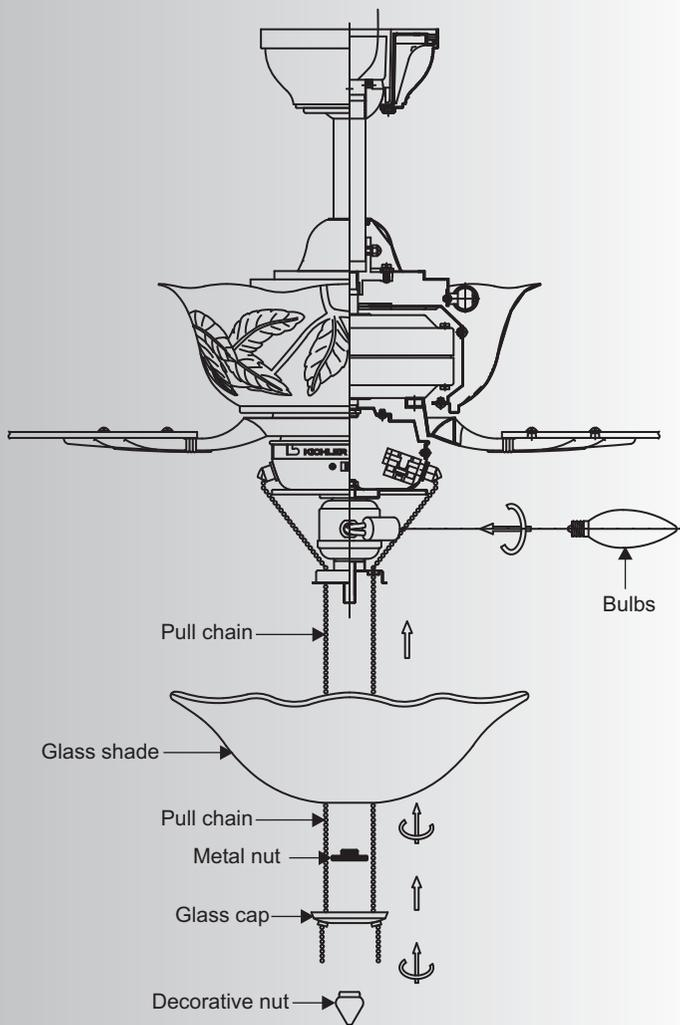

Fig. 17
4. Attach one pull chain fob to each of the beaded pull chains. (Fig. 17)